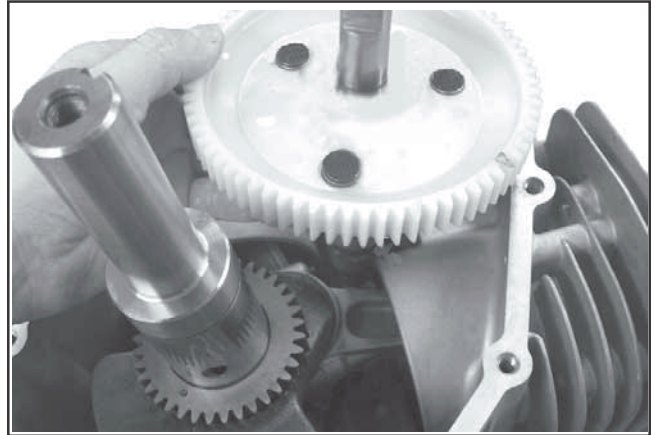

Figure 8-55. Removing Camshaft.
1. Remove the camshaft and shim (if used). See Figure 8-55.